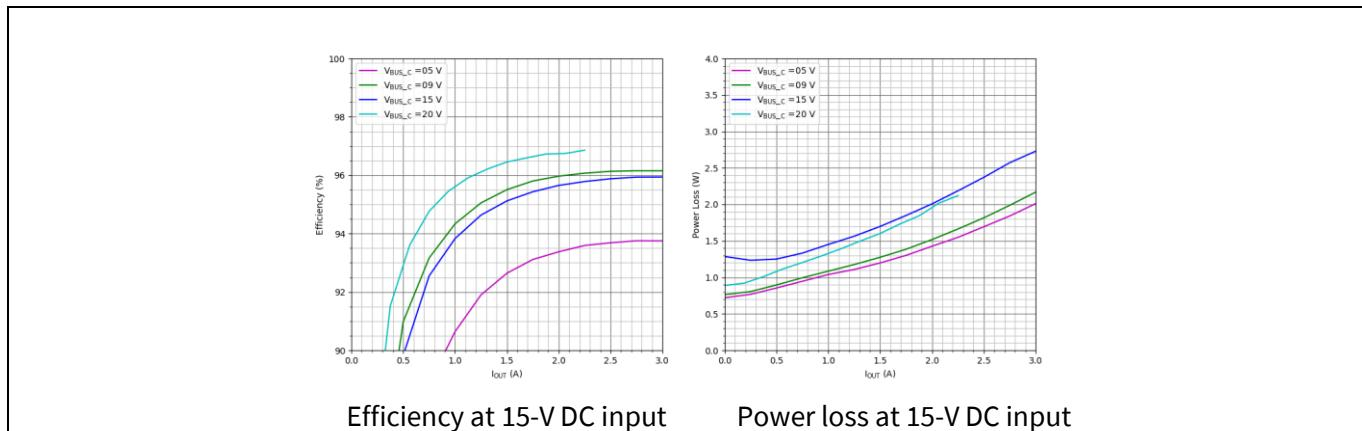

Figure 7 Efficiency and power losses at 15-V DC input
- Efficiency, losses at 15-V DC input, Port #0 and Port #1 V_{BUS_C} 5 V, 09 V, 15 V, 20 V are shown in Figure 7.